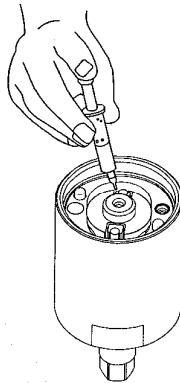

Fig. 50
- ③ Fill up the interior pulse cylinder with the pulse oil about 90% full by an injector. (Fig. 50)